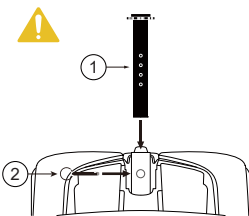

Figure 12: Seat Post Adjustment
2. Adjust the seat post to the desired position and refit the detent pin(see Figure 12).